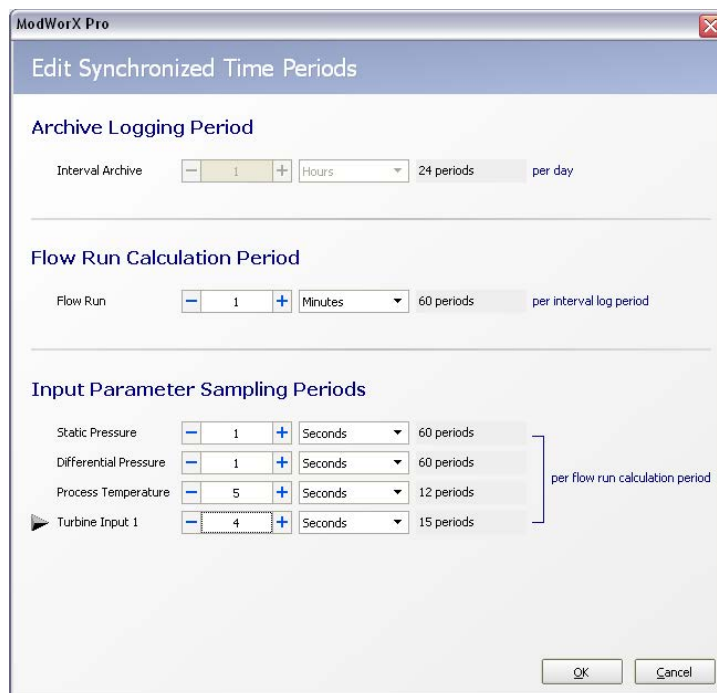

Figure 5.5
- To change the sampling period, click **Edit**. The Edit Synchronized Time Periods dialog will appear, and an arrow will point to Turbine Input (Figure 5.5, page 65).